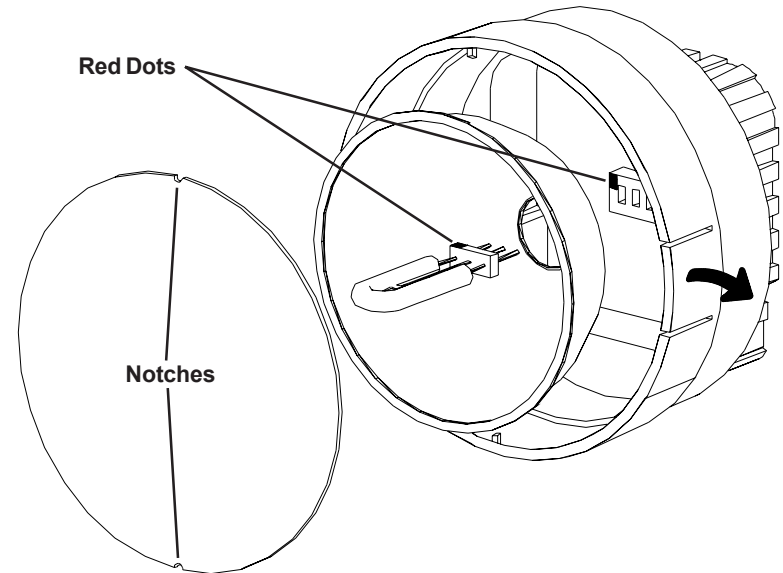

Figure 2 Lamp Replacement
3. The lamps are polarized and must be put into the socket matching polarity. **Using a lint free cloth, match up the red dot on the plug with the red dot on the socket** and gently rock the lamp back and forth while pushing it into place (see Figure 2). Make sure the lamp is in straight and centered in the reflector hole.
4. Reinstall the reflector and then position the front lens in place matching up the notches on the lens with the two small tabs on the housing to prevent lens rotation (see Figure 2). Push the tabs on the front rim outward and press the lens into place.